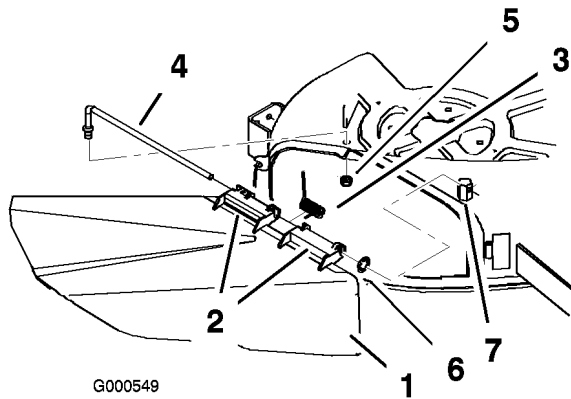

Figure 50
1. Locate items shown in Figure 50.
2. Remove the nut (3/8 inch) from the rod under the mower (Figure 50).
3. Slide the rod out of the short stand-off, internal lock washer, spring, and grass deflector (Figure 50). Remove the damaged or worn grass deflector.
4. Replace the grass deflector and internal lock washer (Figure 50).
Slide rod through second grass deflector bracket and internal lock washer (Figure 50).
7. Insert rod at front of grass deflector into short stand-off on deck. Secure rear end of rod into the mower with a nut (3/8 inch) (Figure 50).